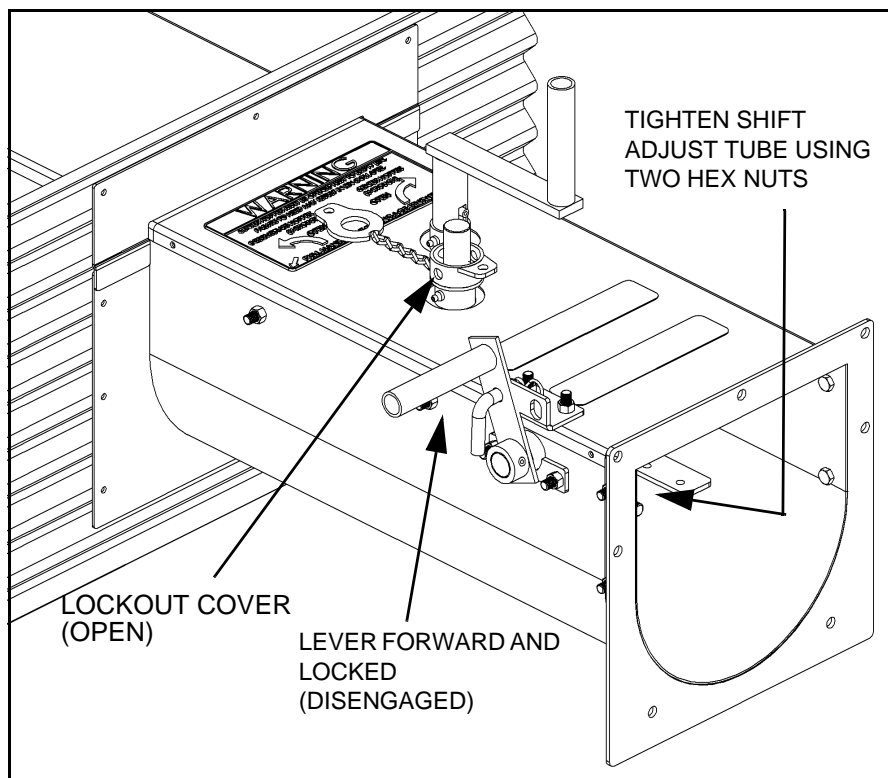
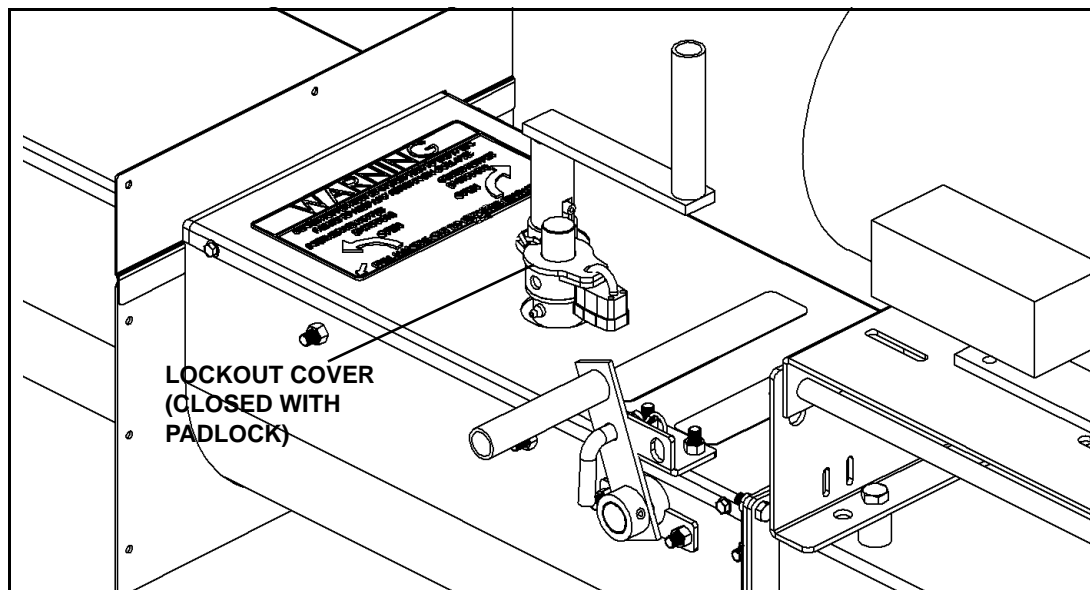

Figure 3.9
Figure 3.10
4. With gearbox shift lever locked in "disengaged" position (lever is forward; see Figure 3.9), tighten shift adjust tube into place using two 1/2" hex nuts on either side. Then remove the lock pin and try shifting the gearbox between "disengaged" and "engaged", ensuring a smooth operation.
1. Once the underfloor u-trough installation is finished, close all the intermediate hopper lids completely. Flip the lockout cover over the shaft and lock out the cover to the bin plate adapter with a padlock (supplied by customer). (See Figure 3.9 and Figure 3.10.)